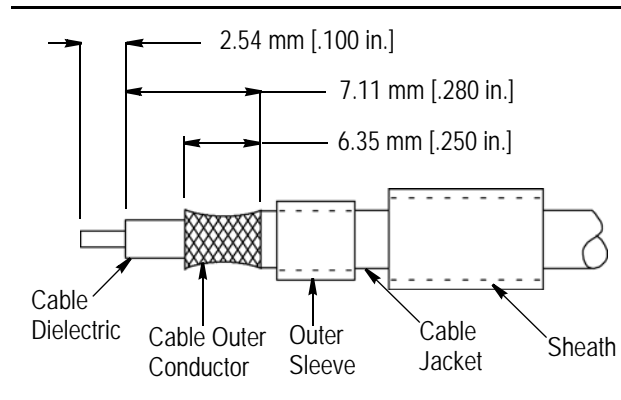

Figure 3
### 3.1. Preparing Coaxial Cable End (Figure 3)
3. Trim the outer conductor, cable dielectric, and inner conductor to the length given in Figure 3.